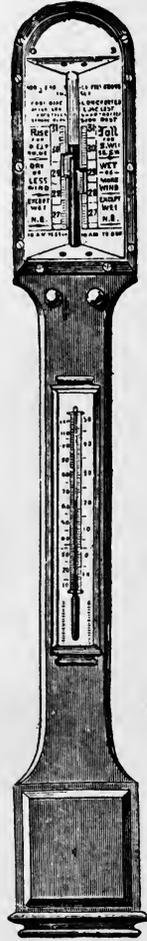

Fig. 80.
- 537. **PEDIMENT MERCURIAL BAROMETER**, in oak frame, with thermometer. Fig. 80 £3 os. od. to £6 os. od.